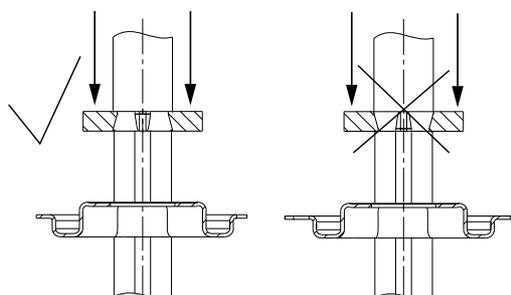

Fig. 12 Fitting the stop ring
5. Fit O-ring (pos. 107) into the rotating shaft seal part (pos. 104). See section 3. *Tightening torques and lubricants*.
6. Fit retainer (pos. 111) and stop ring (pos. 111a). See fig. 12.